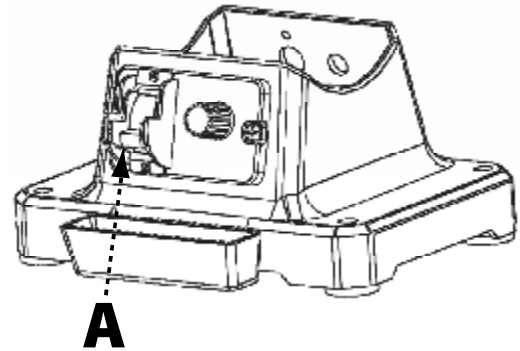

FIGURE 6
The on/off switch (A) is located on the front of the grinder. See Figure 6. To turn the machine "ON", move the switch up to the "ON" position. To turn the machine "OFF", move the switch down to the "OFF" position.